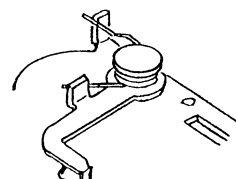
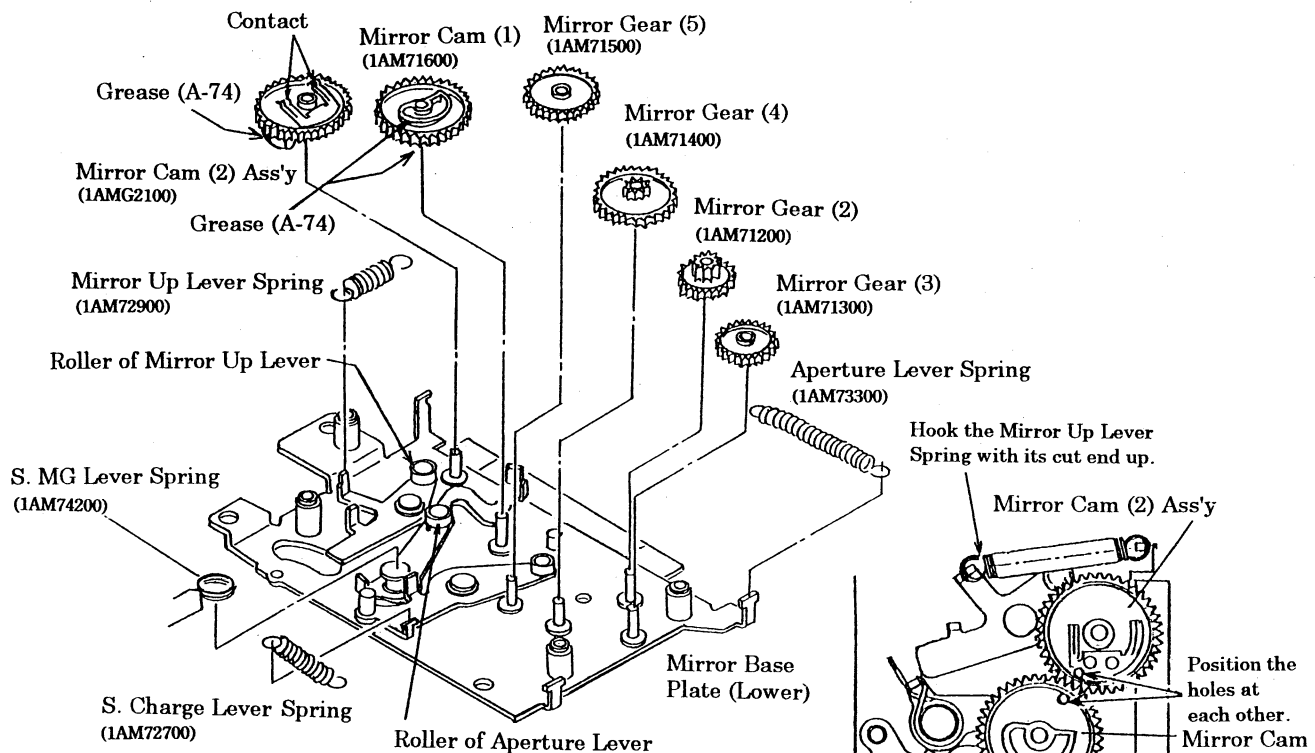

Fig.32
Fig.33
- 5) Pass the ③ portion of the Mirror FPC through the slot in the Mirror Base Plate (Upper) and bend the Mirror FPC.
- 6) Bend the ① portion of the Mirror FPC as shown in Fig. 32 and solder it to the terminals of the Magnet.
- 12) Wipe the contact pattern on the Mirror FPC with lens cleaning paper with ether alcohol. (See Fig. 32)
- 13) Make certain that the contacts of the Mirror Cam (2) Ass'y are free from fatigue or deformation.
- 14) Make certain that the hole in the Mirror Cam (2) Ass'y is positioned at the hole in the Mirror Cam (1). (See Fig. 33)
- 15) Install the Mirror Base Plate (Upper) on the Mirror Base Plate (Lower) with care taken that the end of the FC Charge Lever does not come inside the cam of the Mirror Cam (1). In doing so, the S. MG Lever Spring must be positioned outside the S. MG Lever.